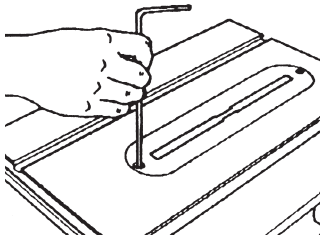

Figure 54
1. Place the Table Insert in the Worktable recess. Use a 5/32" Allen Wrench to start both screws. See Figure 54.